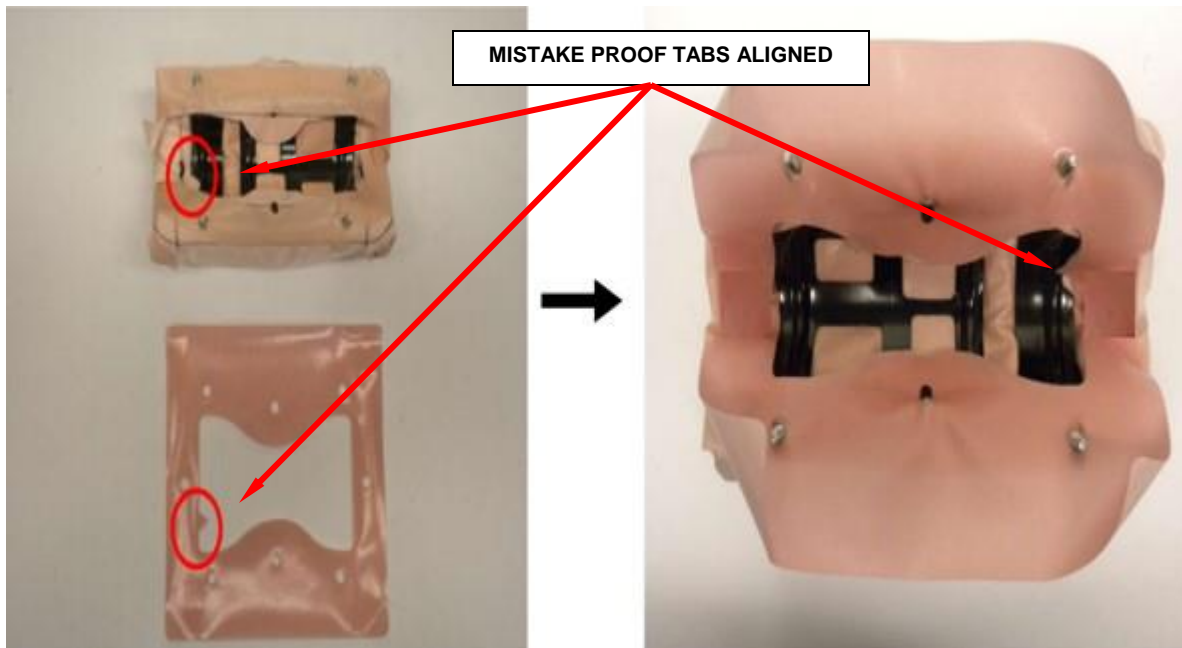

Figure 10 - Fabric Gasket to Cushion (Glossy Side Up)
- h. Place the fabric gasket, glossy side up, onto cushion. Mistake-proof tab should be aligned to the tab on the cushion (Figure 10).